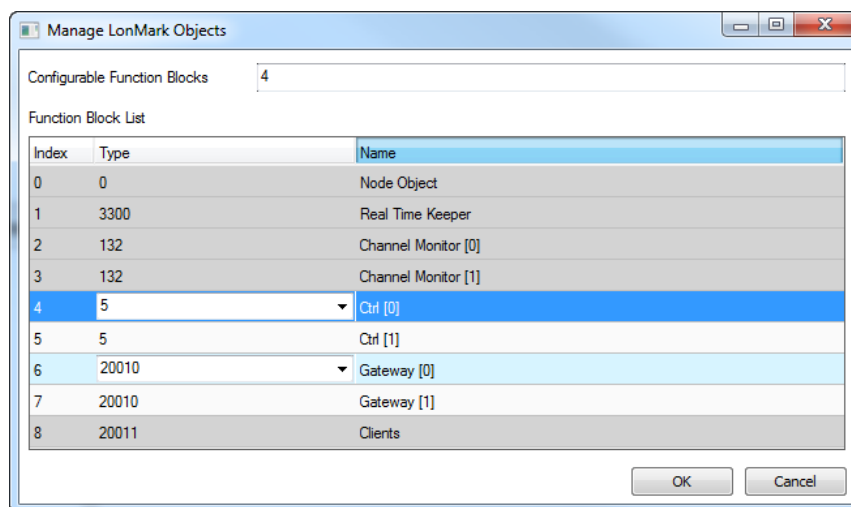

Figure 156: Manage LONMARK Objects.
1. Select the menu **Tools → Manage LonMark Objects ...**. The dialog Manage LonMark Objects as shown in Figure 156 appears.